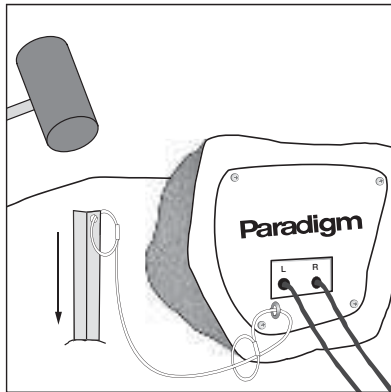

Fig. 10
4. Using a rubber mallet, drive the security stake into the ground close to where the speaker will sit. It must be completely under the surface of the ground. Give cable a gentle tug to make sure stake is firmly planted in the ground. (Fig. 10)